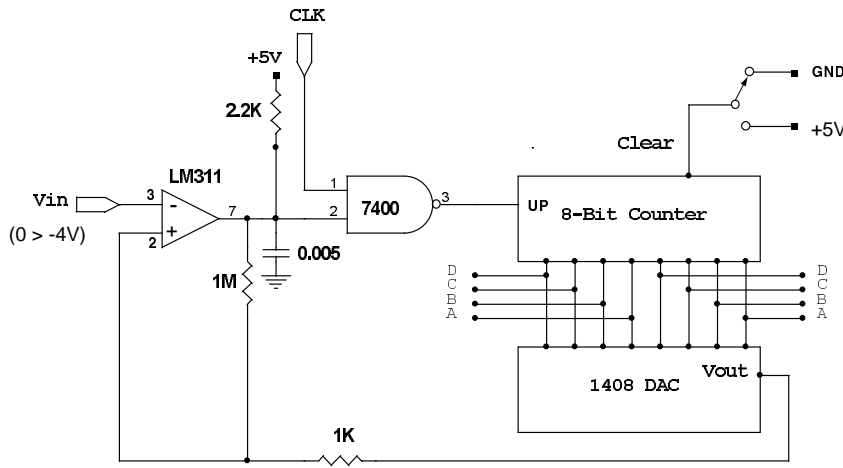

Fig. 3: Analog to Digital Conversion Circuit
- If a comparator circuit is added, as shown in Figure 3, you have a tracking analog to digital converter (ADC). The LM311 comparator compares this with the DAC output and stops